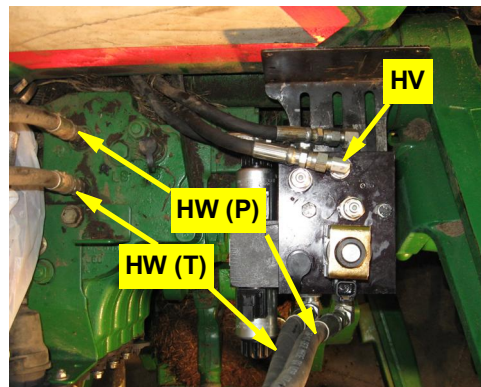
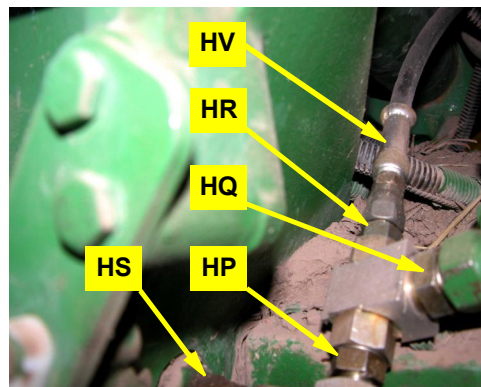

Figure 9a: Installed P and T (and LS) hoses - with no Power Beyond (see Note after step 9a)
Figure 9b: Installed load sense shuttle
- c. Connect female swivel elbow **HP** on the load sense shuttle to adapter **HS** on the casting (Figure 9b).
- d. Reconnect the tractor's load sense hose to adapter **HQ** on the load sense shuttle (Figure 9b). Be careful not to allow grease and dirt to enter the fittings (Figure 9b).
- a. Install the pressure and tank hoses **HW** between the tractor's **P** and **T** ports and the **P** and **T** ports of the hydraulic steering block (Figure 9a).
**NOTE:** *With the Power Beyond option, connect the **HW (T)** hose to the open end of run-tee **HN** installed at 7b.*
- b. Install the load sense hose **HV** between the **LS** port of the hydraulic steering block (Figure 9a) and the open end of the load sense shuttle **HR** installed in **step 8** (Figure 9b).